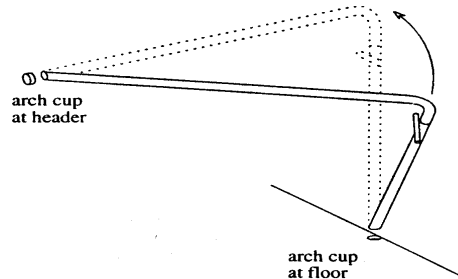

Figure 7. Arch Frame Inserted into Arch Cups.
6. Starting with the center interior arch location, with other personnel supporting the fabric, rotate the arch frame assembly to insert the upper end of the arch into the arch cup at the header, as shown in Figure 7.
5. Starting with the center interior arch location, with other personnel supporting the fabric, rotate the arch frame assembly to insert the upper end of the arch into the arch cup at the header, as shown in Figure 7.